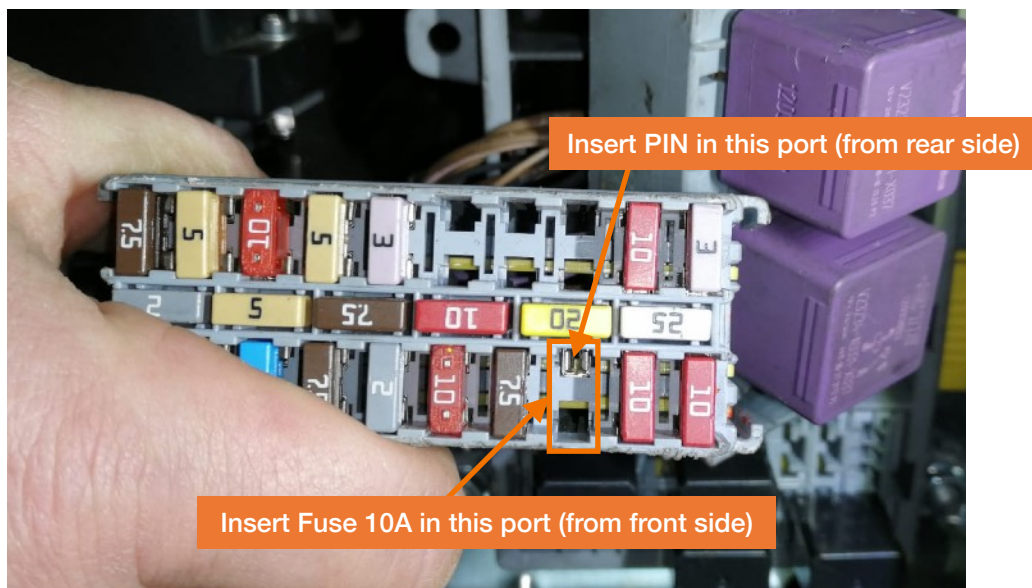

Fig. 6: Correct installation of pin from wiring loom and fuse 10A
5. Insert the new Fuse 10A (33) in the socket marked in Fig. 6 and re-engage the lock of the fuse carrier.